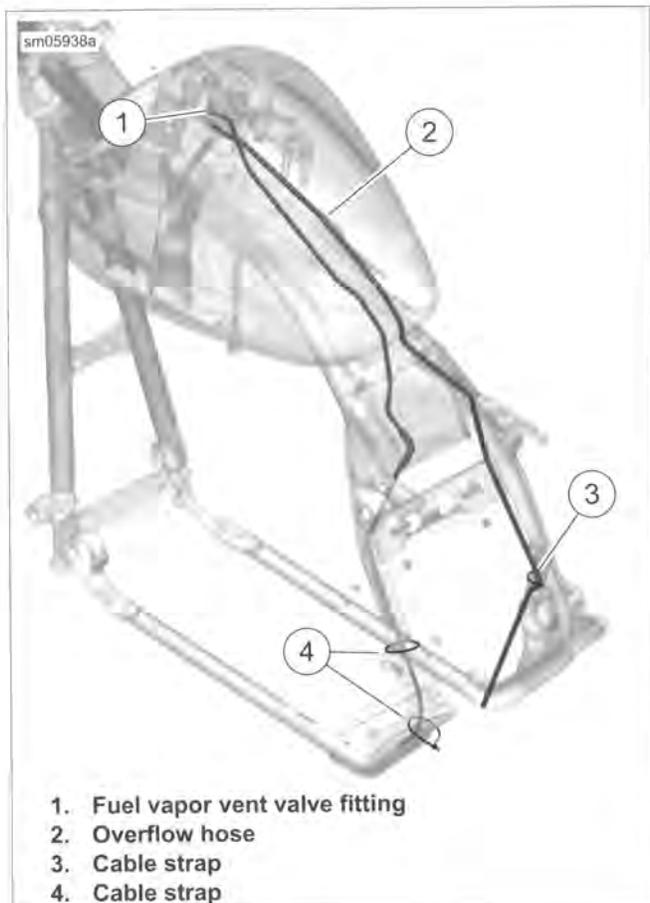

Figure 4-9. Vent Tube
- See Figure 4-9. Connect fuel vapor vent tube to vapor valve fitting (1) on top plate.
- If equipped, connect overflow hose (2) to top plate and route along inner downtube as shown. Secure to brake line with cable strap (3). Do not over-tighten cable strap.
- See Figure 4-9. Remove vapor tube from fitting (1) on fuel tank top plate.
- Remove two cable straps (4) securing tube to rear frame downtube.
1. See Figure 4-9. Route tube down along inner side of rear left downtube. Install two cable straps (4) to secure to frame.
2. Route line along center of fuel tank and connect to fitting (1) on fuel tank top plate.